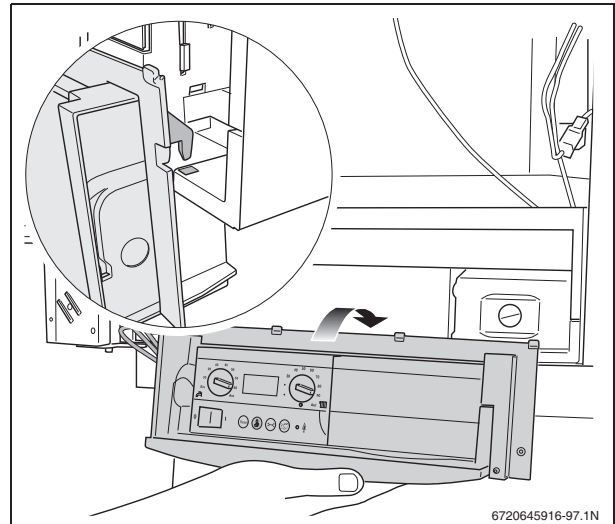

Fig. 96 Hanging the control panel from the boiler frame
- Use the 2 hooks to hang the control panel from the boiler (fig. 96).